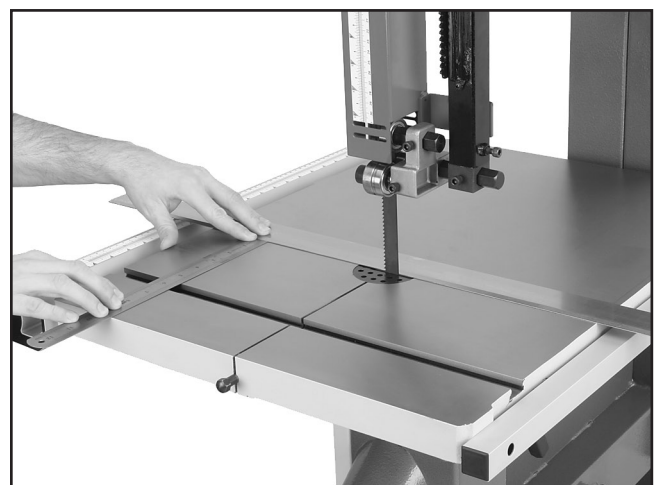

Figure 32. Example of measuring for miter slot to be parallel with blade.
5. Use a fine ruler to accurately gauge the distance between the straightedge and the miter slot. The distance you measure should be the same at both the front and the back of the table (see **Figure 32**).